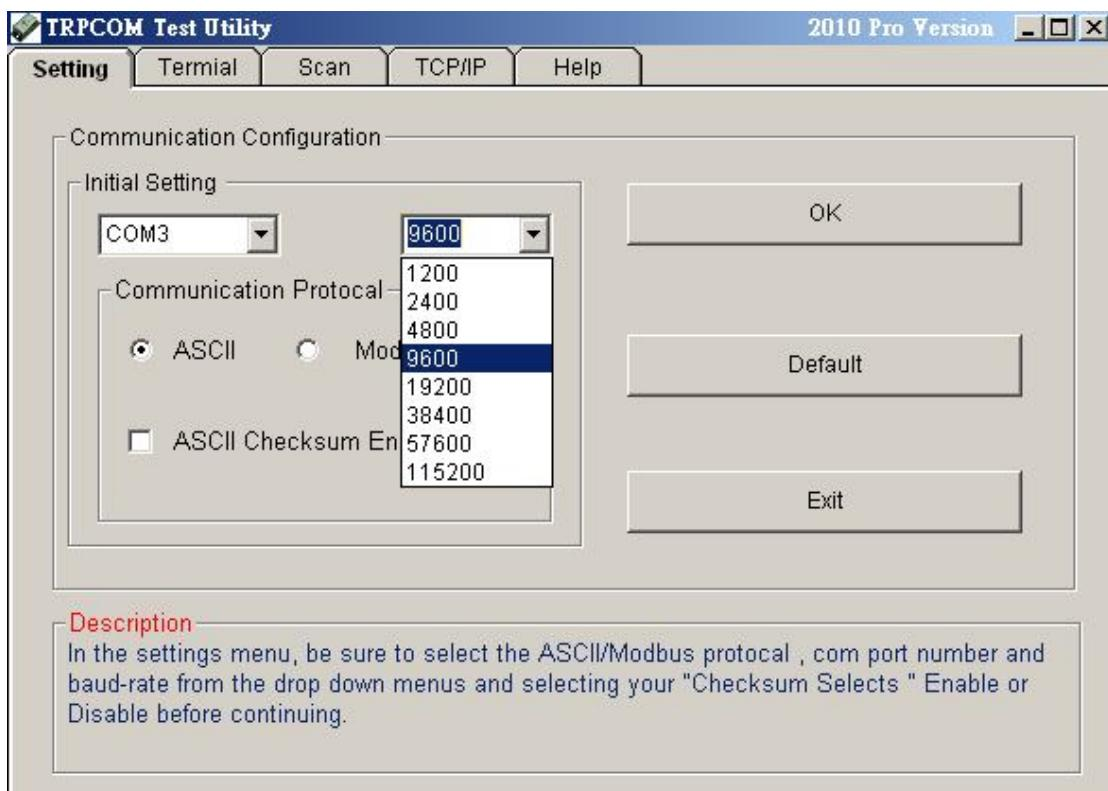

Figure 1
1.The “Setting” function is for user to initiate the software to set the Com Port from 1 to 20 and setting the Baud-Rate from 1200 to 115200,Checksum Enable or Disable. …See Figure 1